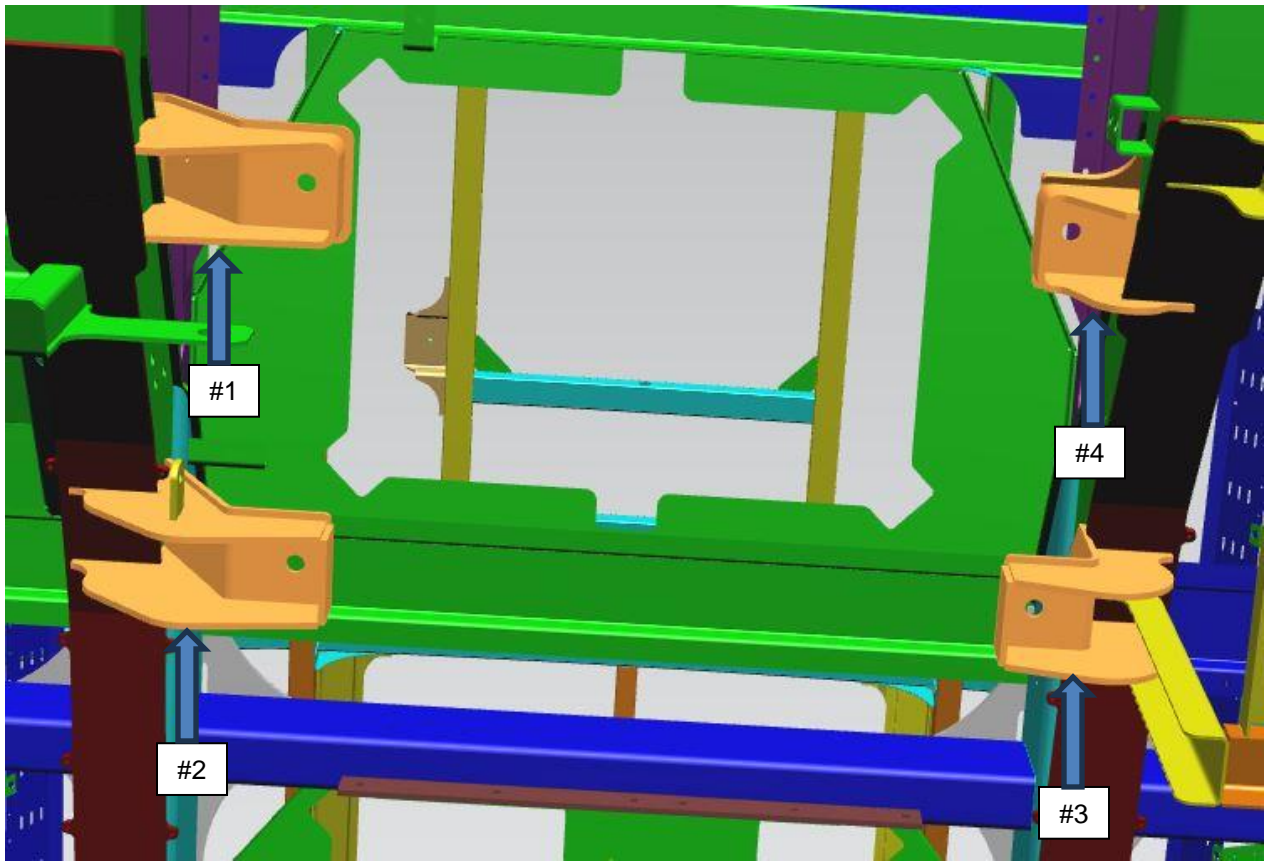

FIGURE 1: SHOWN AREA TO BE INSPECTED ON REAR CHASSIS (FROM UNDER THE BUS)
5. On the bottom of the chassis on the rear coach, locate the 4 PEM motor mount brackets. See Figure 1 below.